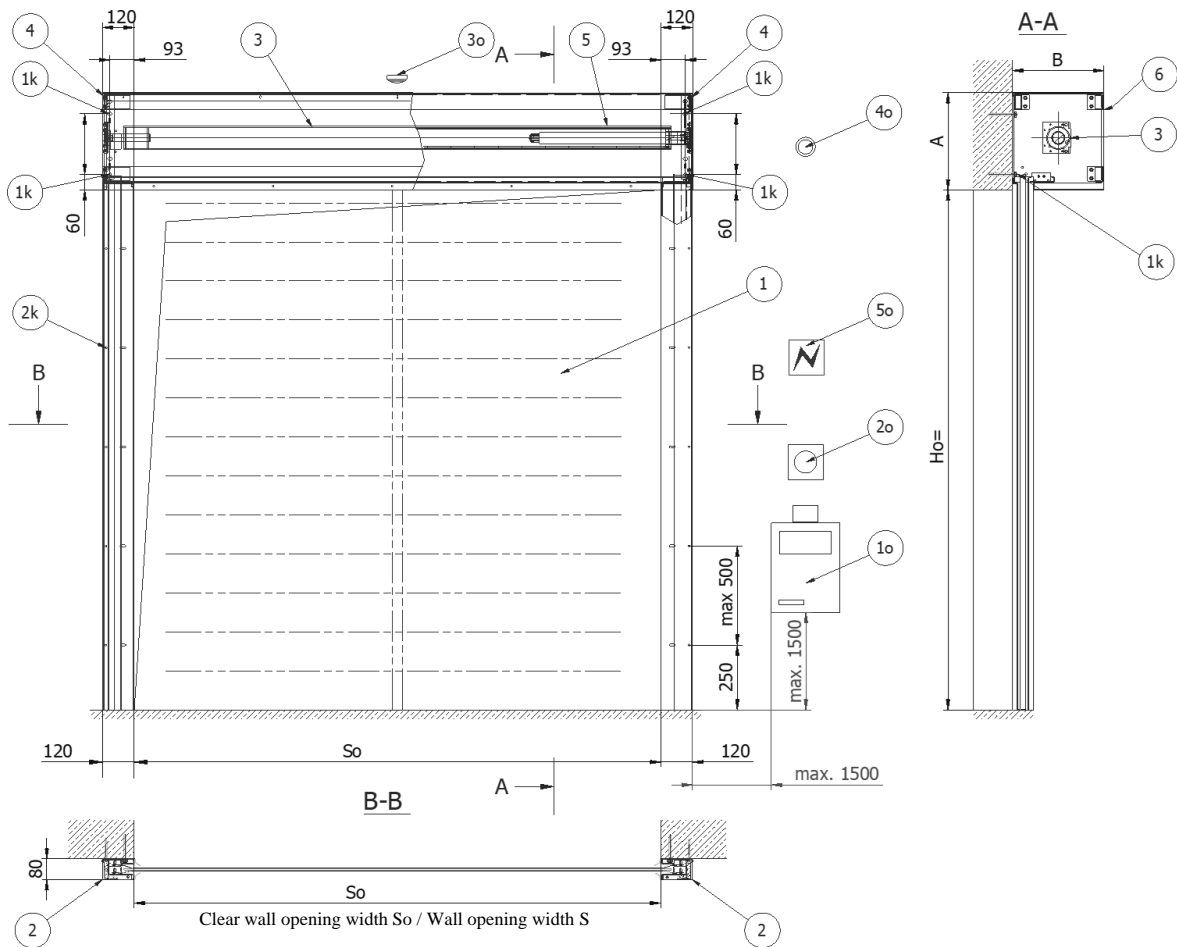

Fig. 5. Direct wall-mounted installation conditions for a standard fire safety curtain door
- With reference to the dependencies shown in Fig. 5, verify that the ordered door fits the installation conditions on site.